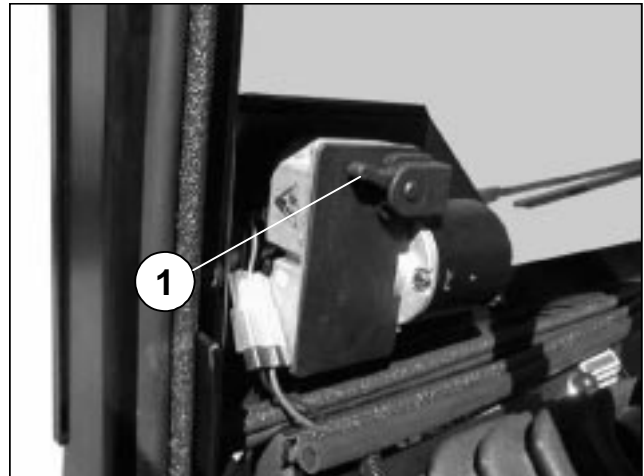

FIG. 2
**WINDOW WIPER SWITCH:** The Window Wiper is operated electrically by turning on the Wiper Switch, causing the Wiper Blade to slide back and forth across the Front Window. (See Fig. 2)